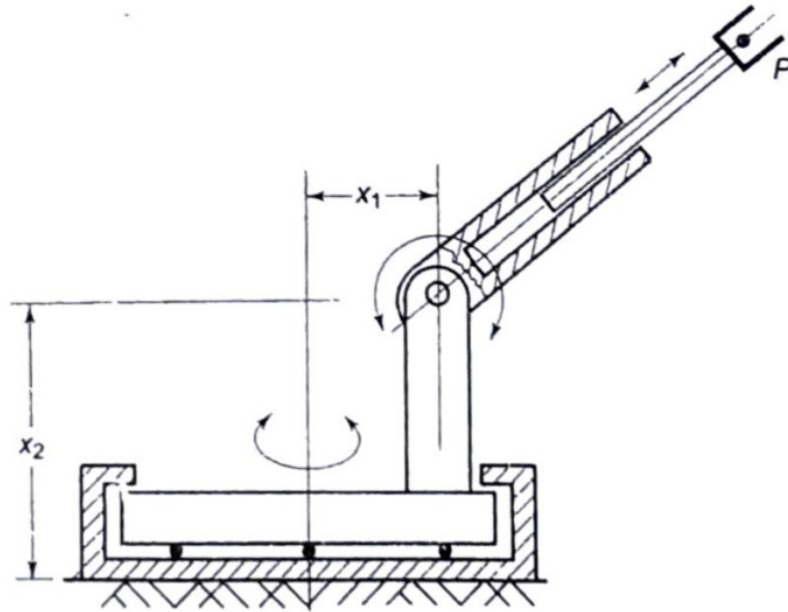

Figure Q1d
d) In figure Q1d is 3-DOF manipulator, vector $q = [90^\circ \ -45^\circ \ 100\text{mm}]^T$ with $x_1 = 50 \text{ mm}$ and $x_2 = 40\text{mm}$. Obtain the position and orientation of tool point P.